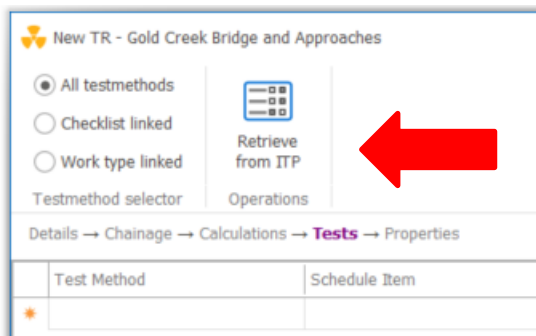

Figure 99 The Retrieve from IPT button
6. Here we select the test but this time instead of searching from a list, click on *Retrieve from ITP* at the top of the dialog (see Figure 99)